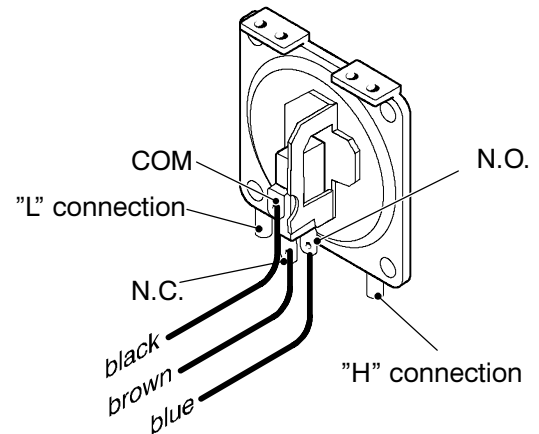
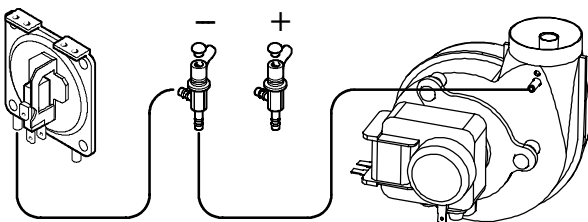

Fig. 69a
Fig. 73
- 2 Disconnect the wires and check the electrical resistance between the connections of the Air pressure switch. Refer to the Fig. 69a or b in accordance with the type of air pressure switch used.
Warning: to correctly connect the venturi device to the Air pressure switch, refer to Fig. 73.
Warning: to correctly connect the Air pressure switch, refer to Fig. 73 and Fig. 69a or Fig. 69b for the correct wiring.